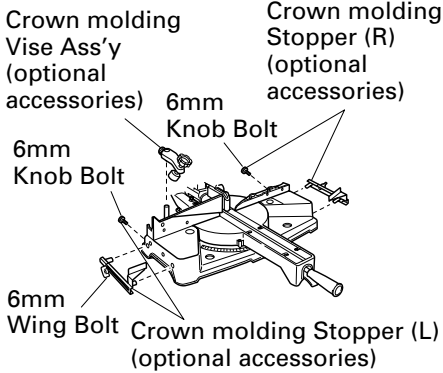

Fig. 45-a
- (1) Crown molding Stopper (L) and (R) (optional accessories) allow easier cuts of crown molding without tilting the saw blade. Install them in the base both-sides side to be shown in Fig. 45-a. After inserting Tighten the 6mm knob bolts to secure the crown molding Stoppers.